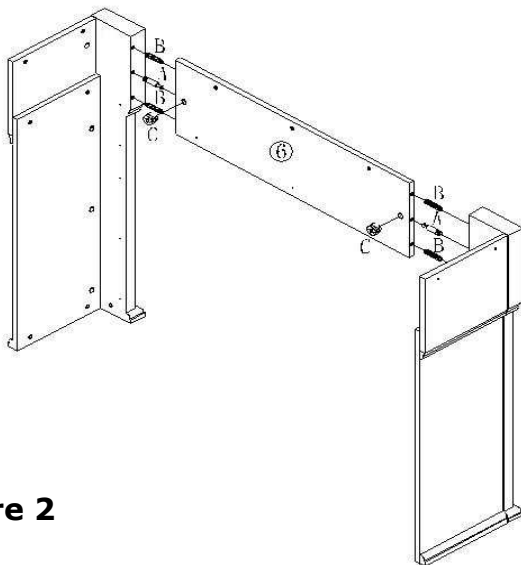

Figure 2
AFTER ASSEMBLED FIGURE 2, INSERT (H) CROSS SOCKET NUT & (B) WOOD DOWEL TO THE RELATED HOLES, THEN USE (D) SOCKET HEXAGON BOLT & (E) SPRING WASHER & (F) FLAT WASHER & (G) SOCKET HEAD WRENCH TO CONNECT (7) BASE .